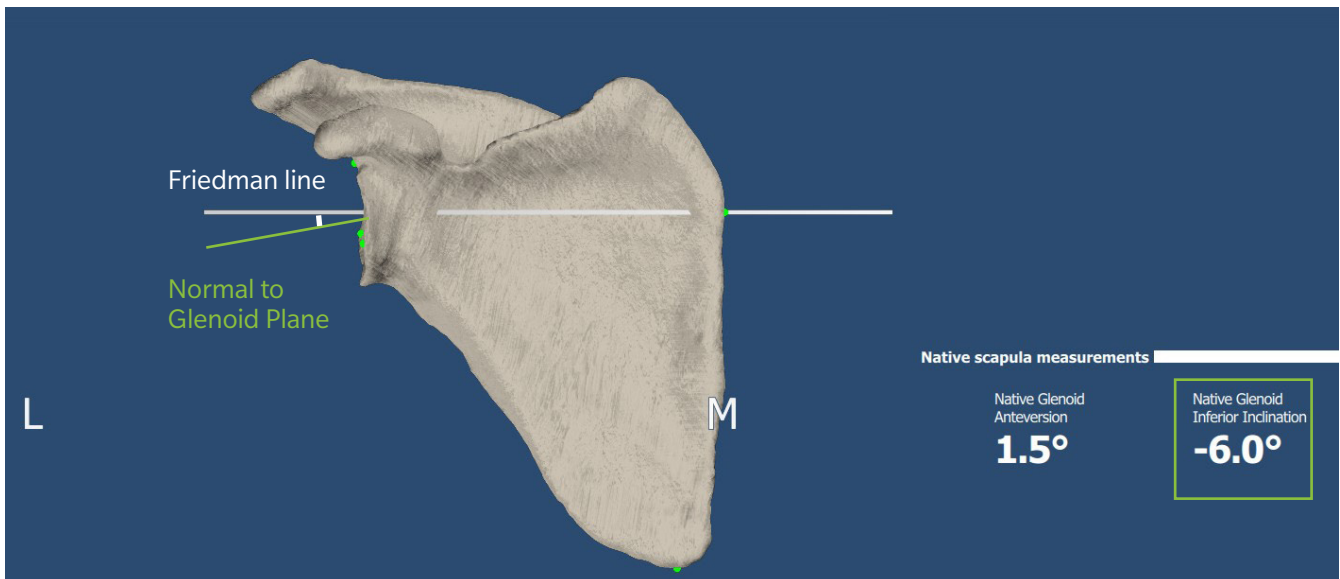

Figure 4 - Native glenoid inclination
- The native glenoid inclination is the angle between the Friedman line and the vector normal to the glenoid plane projected onto the coronal plane. (Figure 4)